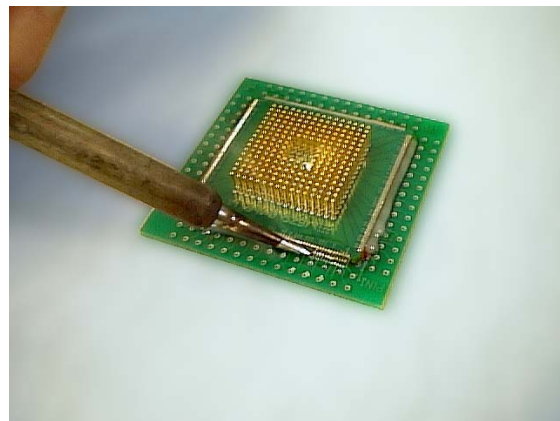

Figure 5: Soldering Process
(6) Start at one corner and pull the tip of the soldering iron along the side of the foot as shown in Figure 5. Continue down the side of the foot until a suitable fillet is present between all adapter pads and target PCB pads.
(7) Repeat this step for the remaining three sides of the adapter. Caution must be used when touching the soldering iron tip to the